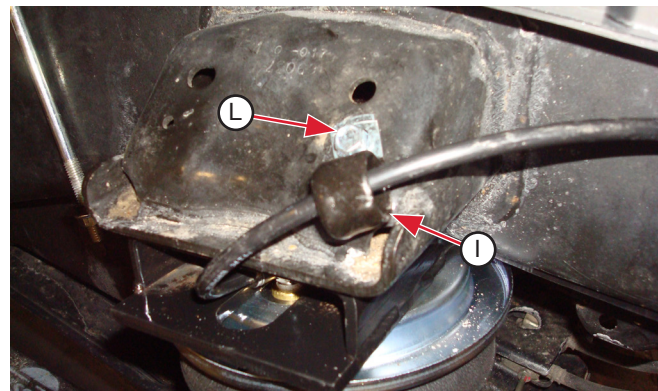

Fig. 19
3. For the air line, it is recommended that the air line be routed along the top of the frame, in front or behind the axle, then down to the fitting (Fig. 19). After cutting the air line to length, insert the air line into the fitting. Secure the air line to the upper jounce bumper mounting bracket by attaching a P-clamp (I) around the hose and attaching it to the jounce bumper bracket by driving the #14-1/4" x 3/4" self-tapping screw (L) using the small hole as a pilot. Secure the air line to the frame or where needed using the zip ties (BB) supplied.